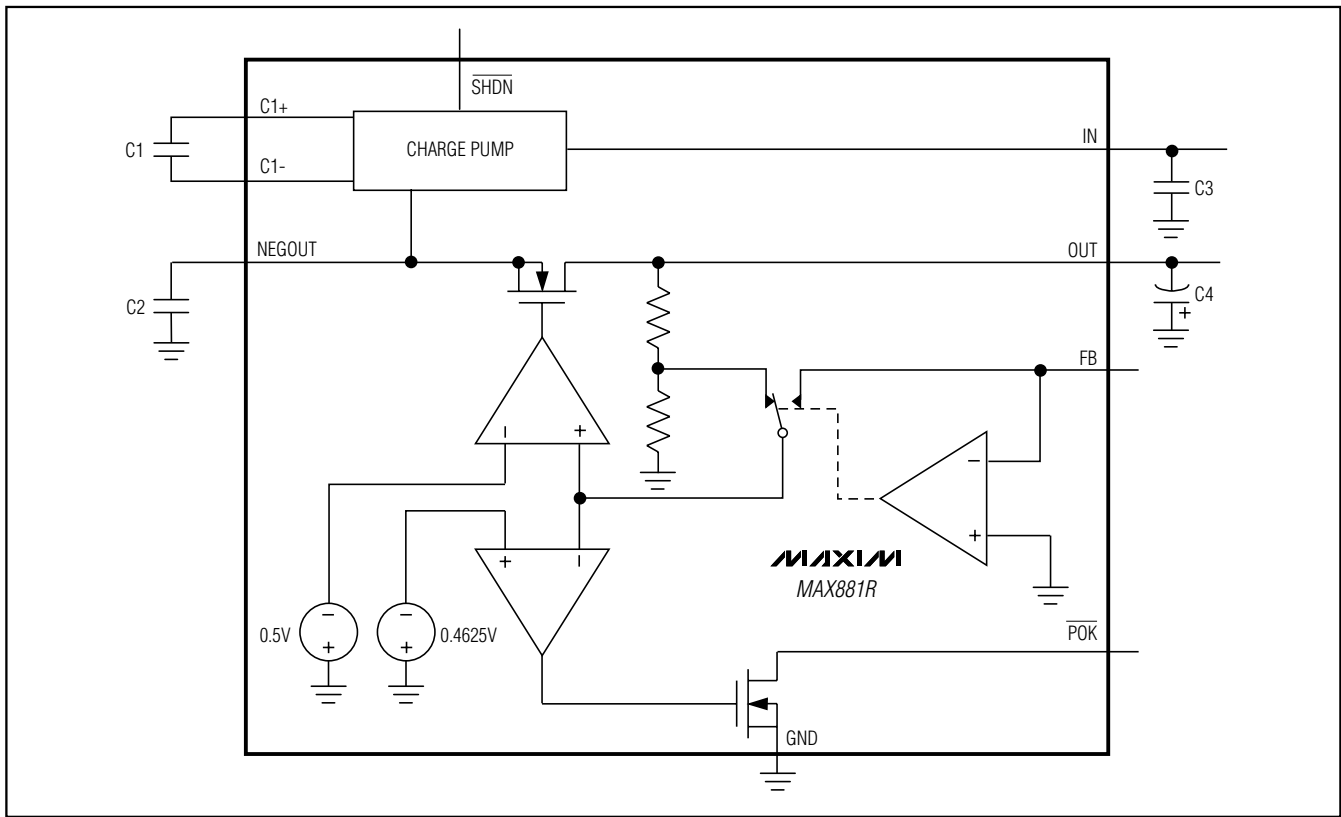
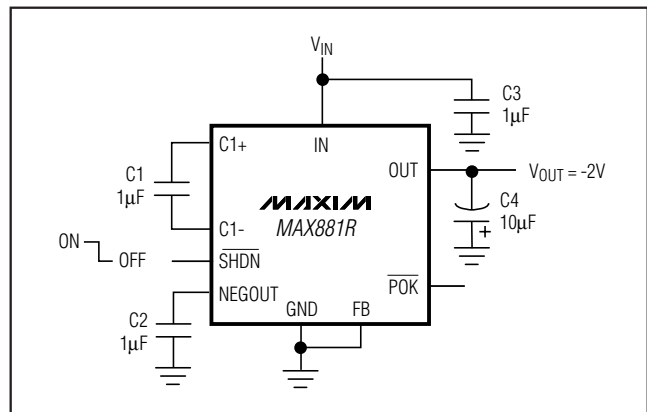

Figure 1. Functional Diagram
Figure 3b. Standard Application Circuit for Minimum Output Noise
**OUTPUT NOISE AND RIPPLE (CIRCUIT OF FIGURE 3b)**
**OUTPUT NOISE SPECTRUM (CIRCUIT OF FIGURE 3b)**
The applied input voltage ( $V_{IN}$ ) is inverted to a negative voltage at NEGOUT by a capacitive charge pump. This voltage is regulated by an internal linear regulator at OUT (Figure 1). With FB connected to GND,  $V_{OUT}$  is regulated at -2V. Alternatively, use a voltage-divider at FB to adjust the output voltage between -0.5V and  $-(V_{IN} - 0.6V)$  (see the section *Setting the Output Voltage*). The internal linear regulator reduces the ripple noise induced by the charge-pump inverter to 1mVp-p at OUT (circuit of Figure 3b). In addition, the excellent AC rejection of the linear regulator attenuates noise from the incoming supply.